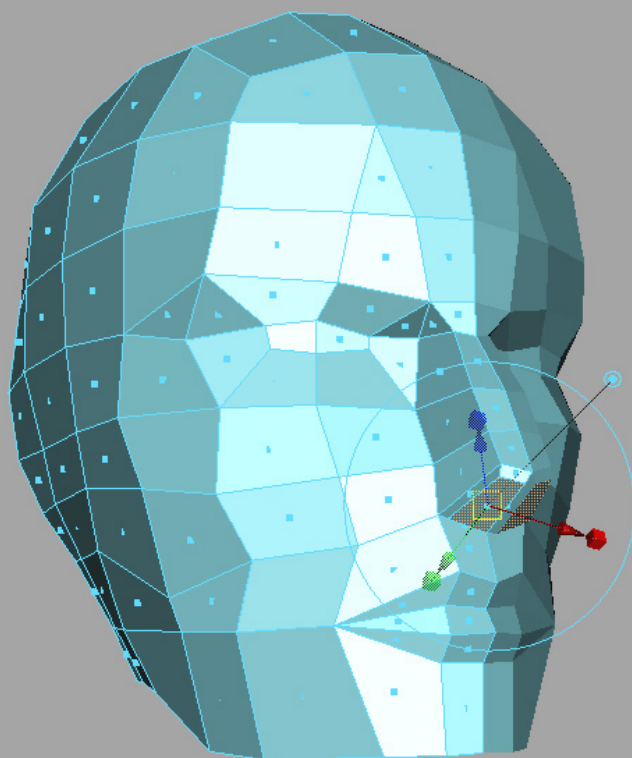

Fig 16
16. Extrude out the face at the bottom of the nose to add a bit more dimension to the nose. (Fig 16)